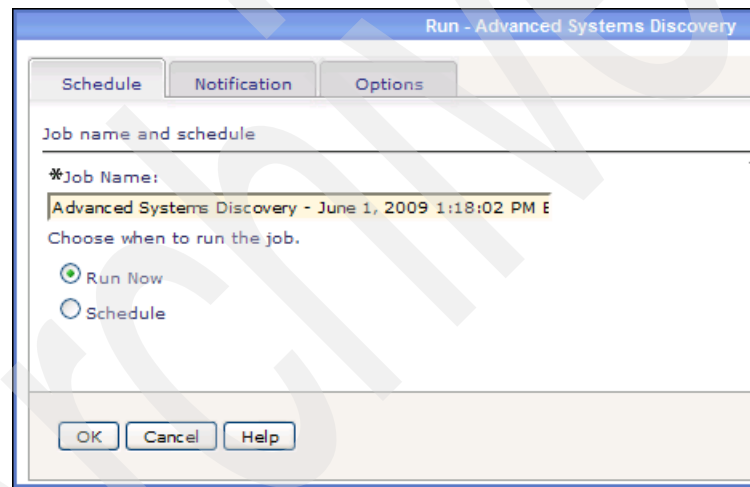

Figure 5-29 Run - Advanced System Discovery
11. As shown in Figure 5-29, you can choose to schedule the Advanced System Discovery task as well as set notification options.